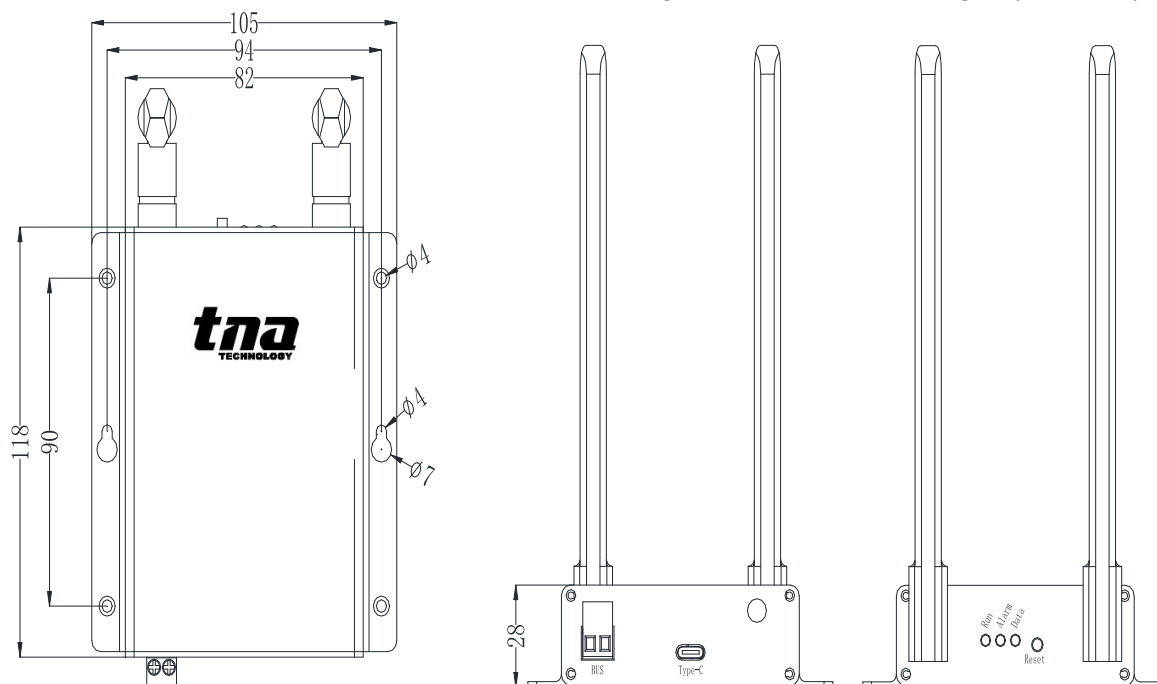

Fig. 1 TX3231 outline dimension and installation dimension diagram
1. Outline dimension and installation dimension of the gateway as shown in Fig. 1 (unit: mm).